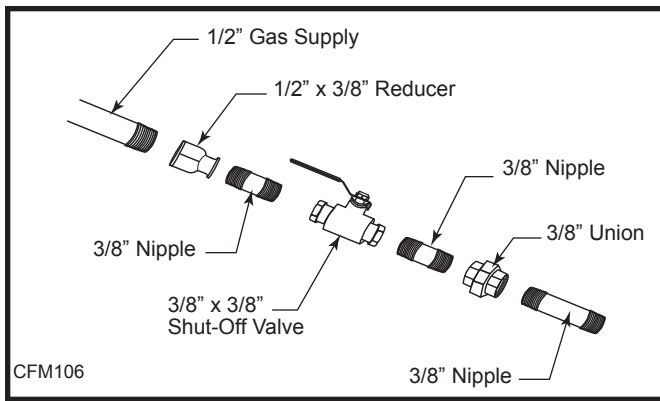

Fig. 3 Typical gas line connection.
2. Position switch assembly onto the back of the stove, then fasten two (2) screws as shown in Figure 3.